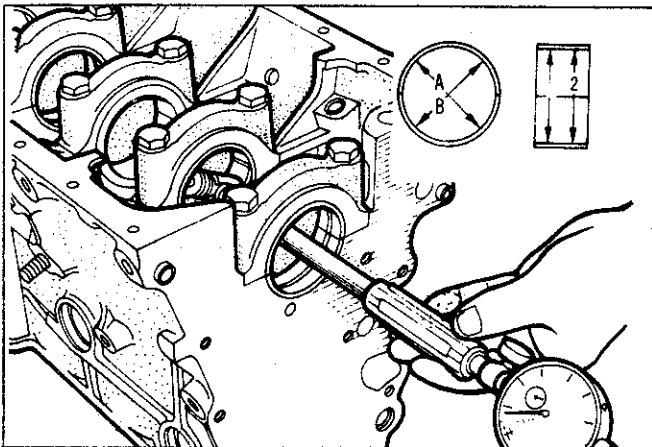

Fig. 69—Measuring bearing diameter
(2) Assemble the bearings and caps and measure the bearing inside diameter, Fig. 69. The clearance is the difference between the respective bearing and journal diameter.
(3) If the clearance is not within specification and the journal diameter is within specification the bearings must be replaced.